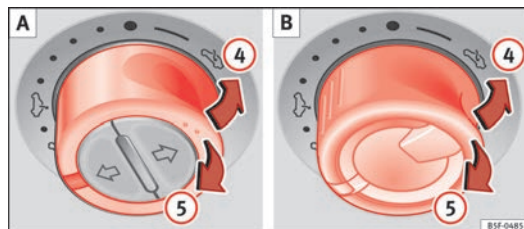

Fig. 63 In the interior roof lining (variants A and B): Press the button and pull on it to lift and close the sliding sunroof.
⇒ Fig. 63 A or B
- *Panoramic sliding sunroof*: Within five seconds of triggering the anti-trap function, pull the control all the way back ⇒ Fig. 63 (arrow) until the panoramic sliding sunroof closes fully.